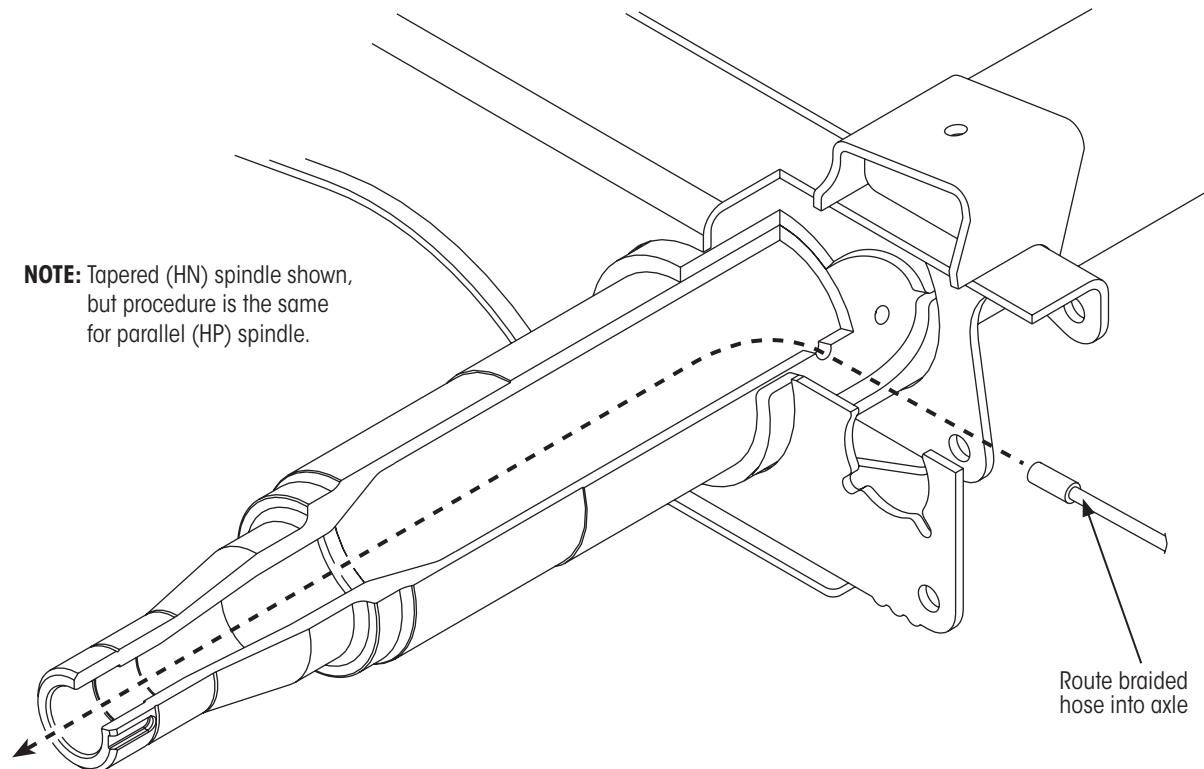

Figure 10: Routing axle hose
1. On the end of the axle tube with two ¼ inch holes in the wrap window (on **INTRAAX®** and **VANTRAAX®** suspensions), **route** the small end of the metal braided hose into the hole closest to the spindle end (Figure 10). On Hendrickson **TRLAXLE®** non-integrated trailer axle, **route** the small end of the